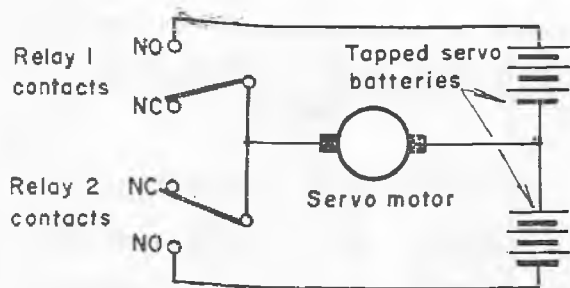

FIG. 2
In nearly all the present self-neutralising (or self-centring) servos where the neutralising is powered, as opposed to spring centred, a tapped battery supply is used, and reverse drive comes from the other half of the supply. The circuit is then as in Fig. 2, and the self neutralising action is obtained from the normally closed contacts. The operation is as in Fig. 1, i.e. relays 1 and 2 give drive in opposite directions. Some manufacturers even advise the use of the Fig. 2 circuit for progressive controls, where self-neutralisation is not required, whereas the single battery circuit can be used to advantage.
3. The circuit of Fig. 1 gives immunity from both relays operating at the same time. If this happens in Fig. 2, the cells are discharged through the relay contacts, and can easily become completely discharged in a second or two. The resultant heavy current can easily damage both the relay contacts and the cells. This is admittedly a rare occurrence, but if it happens it is disastrous, and it is worth making the circuitry foolproof in this respect.